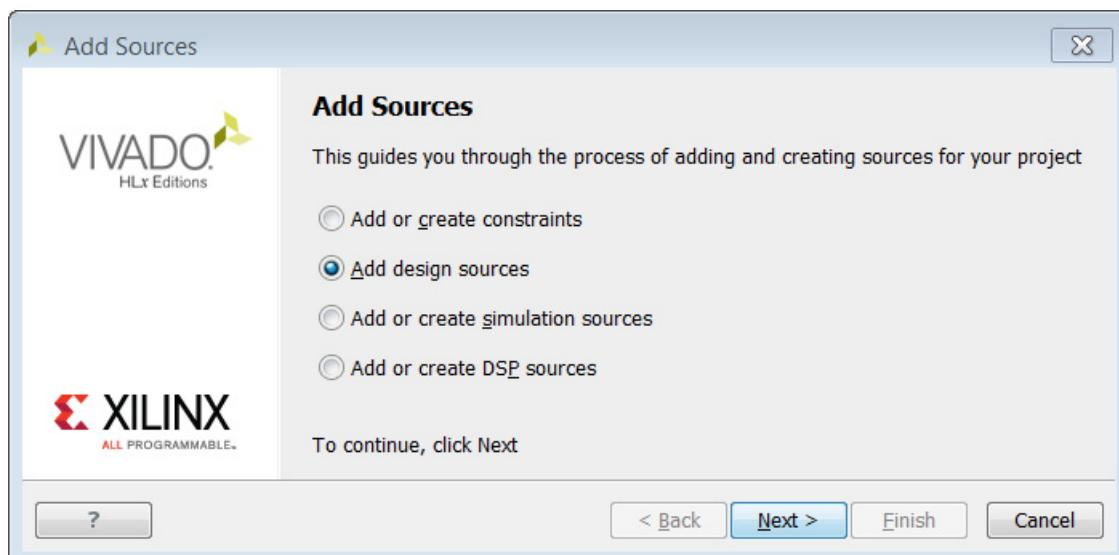

Figure 11-10: Add Design Sources
1. In the Add Sources wizard, select **Add design sources**, as shown in Figure 11-10, page 149.